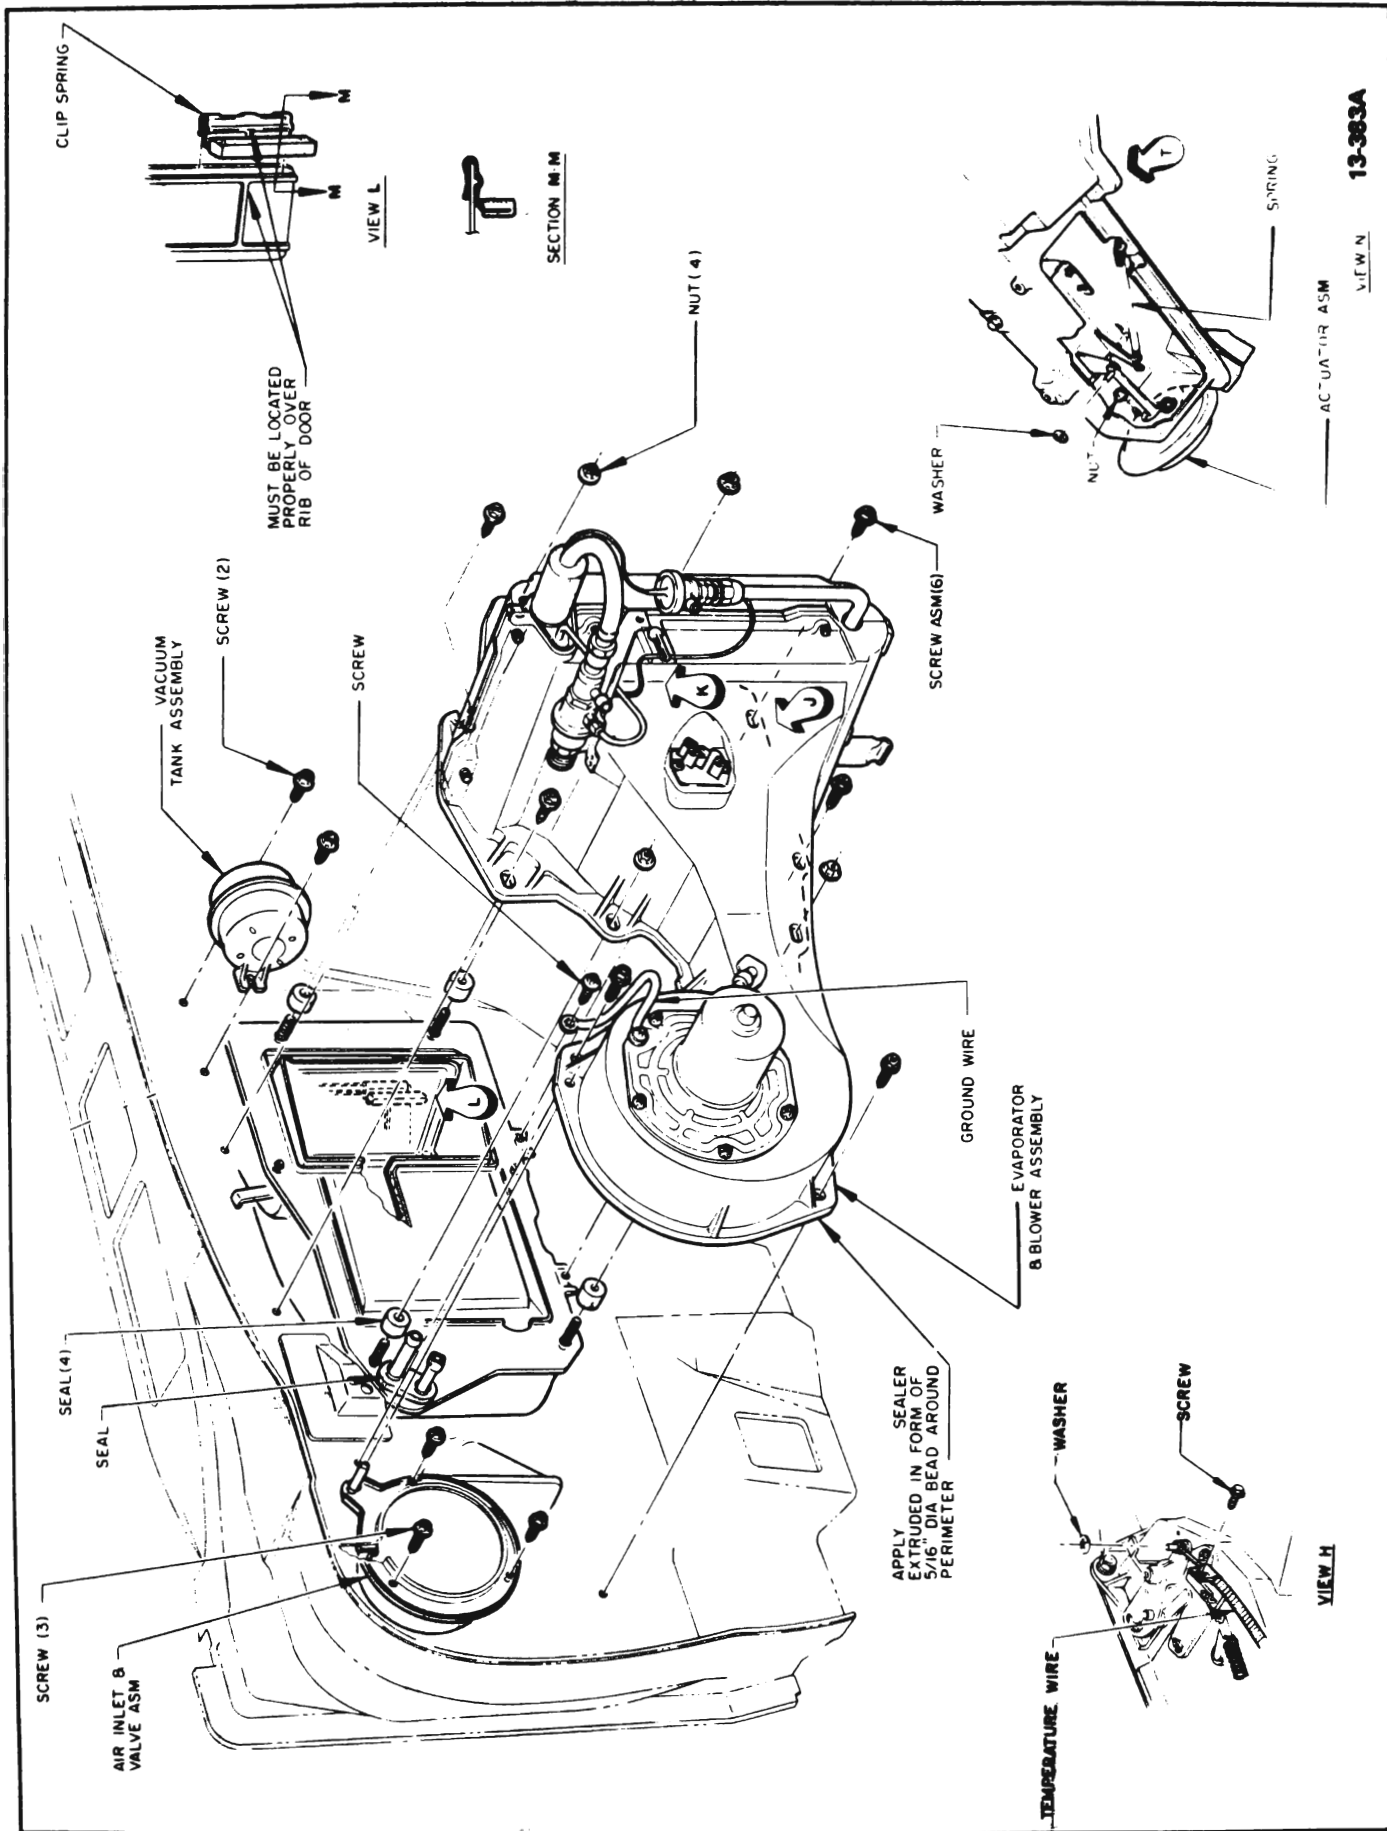

Figure 13-134 Air Conditioner Heater Assembly, 43-44000 Series
4. Disconnect defroster and temperature control wires. See Figure 13-134.
securing air condition heater assembly to dash and remove assembly. See Figure 13-134.